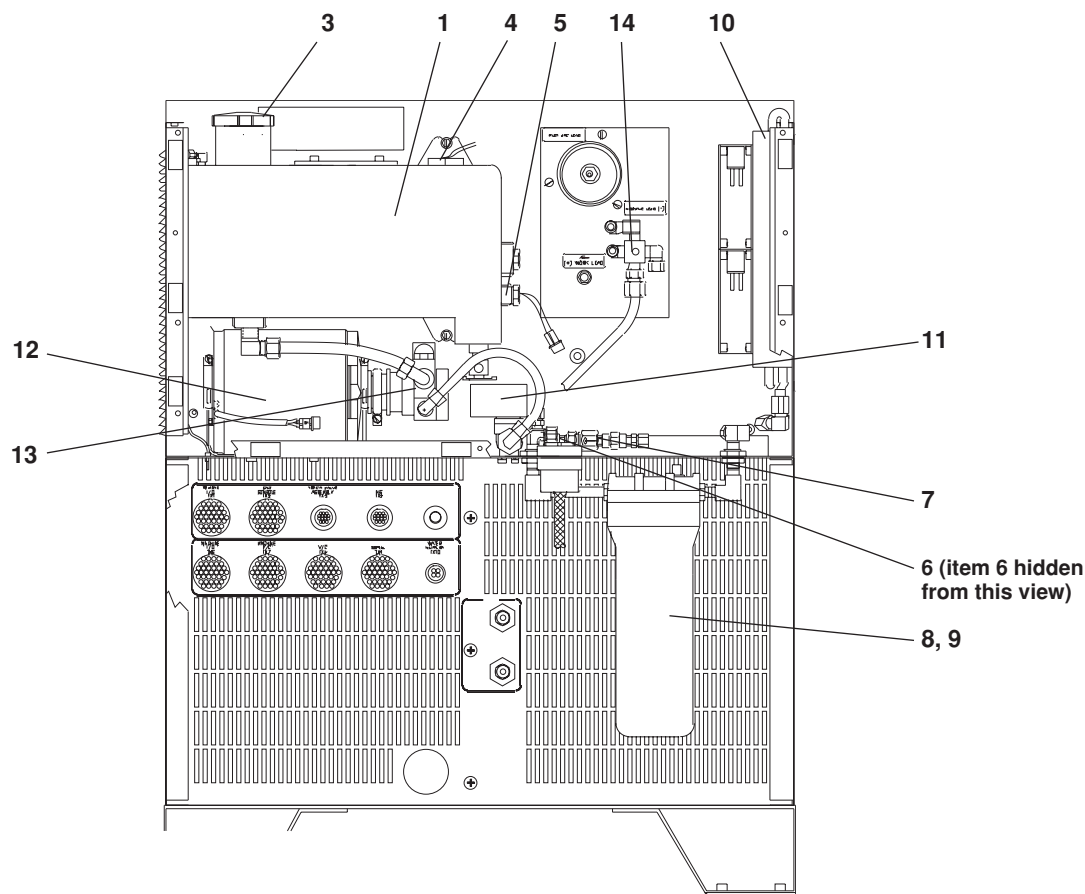

Figure 6-8 HT2000LHF Power Supply – Rear Wall Outside
* Item is not shown in Figure 6-8. See page 5-2 for illustration of part.